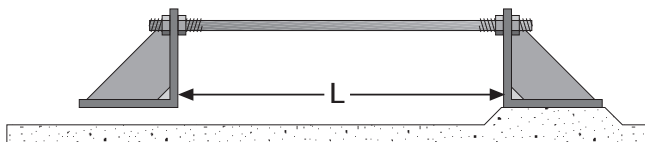

Figure 1-19
Figure 1-19 illustrates a stay rod rigidly attached to a bracket on each end—one bracket is rigidly mounted, the other is unattached, thus allowing the rod to expand and contract freely. As the temperature rises or drops, the length of the rod will increase or decrease respectively. The change in length (ΔL) is proportional to the original length (L), the change in temperature (ΔT), and the coefficient of linear expansion (α) which is a characteristic of the rod material.
If the rod in Figure 1-19 is made from 1018 steel, then $\alpha = 6.5 \times 10^{-6}$ from Table 1-1. If the rod is 48" long and the temperature increases by 60°F, the length of the rod will increase by: